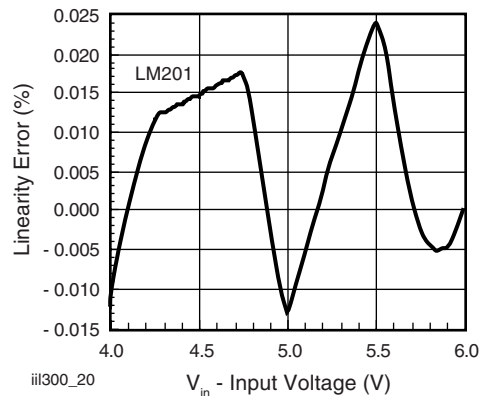
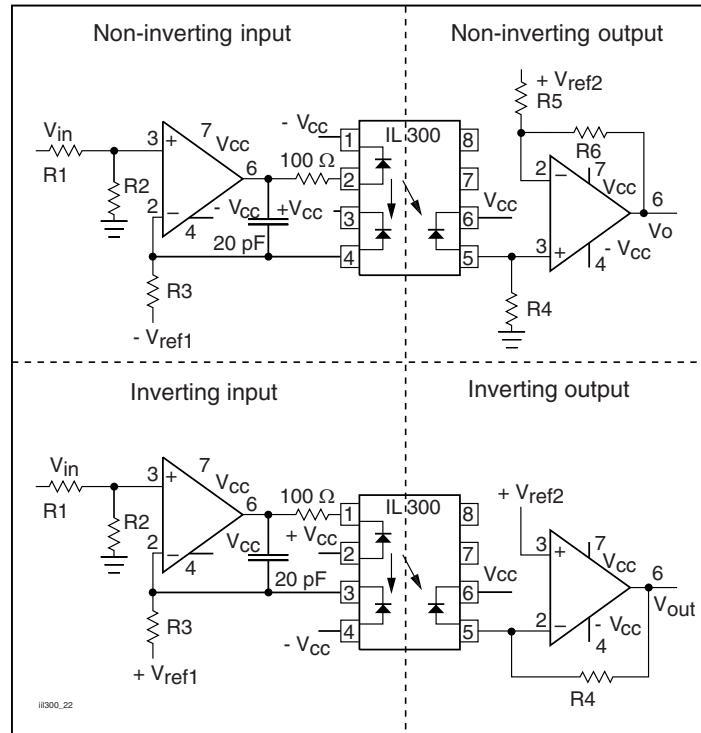

Fig. 15 - Linearity Error vs. Input Voltage
Fig. 17 - Non-inverting and Inverting Amplifiers
The DC transfer characteristics are shown in figure 17. The amplifier was designed to have a gain of 0.6 and was measured to be 0.6036. Greater accuracy can be achieved by adding a balancing circuit, and potentiometer in the input divider, or at R5. The circuit shows exceptionally good gain linearity with an RMS error of only 0.0133 % over the input voltage range of 4 V to 6 V in a servo mode; see figure 15.
The same procedure can be used to design isolation amplifiers that accept bipolar signals referenced to ground. These amplifiers circuit configurations are shown in figure 17. In order for the amplifier to respond to a signal that swings above and below ground, the LED must be pre biased from a separate source by using a voltage reference source (V_{ref1}). In these designs, R3 can be determined by the following equation.